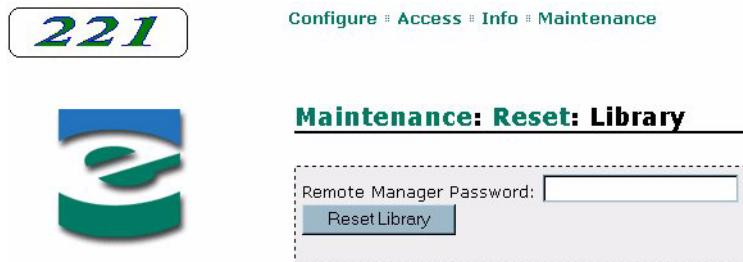

Figure 6-47 Remote management utility – Reset Library page
3. Click on Reset the library. A page similar to Figure 6-47 appears.